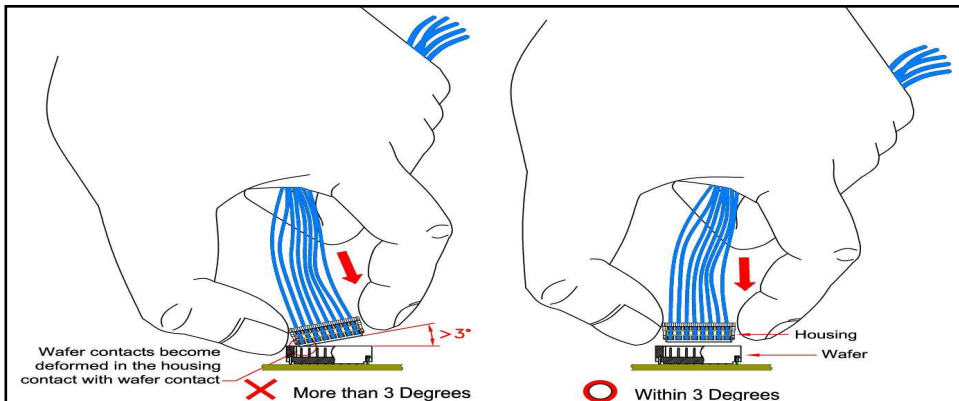

figure 4.3
- 4.3 It causes deformation due to the housing come into contact with the base contact when the housing inserted into the wafer with leaning. Housing shall be mated without twist or wrench. In case twist or wrench should occur, it should be within 3 deg. (see figure 4.3)